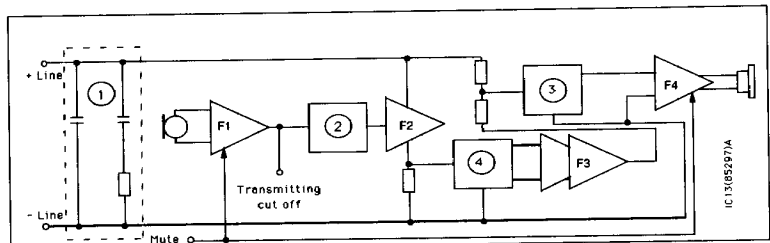
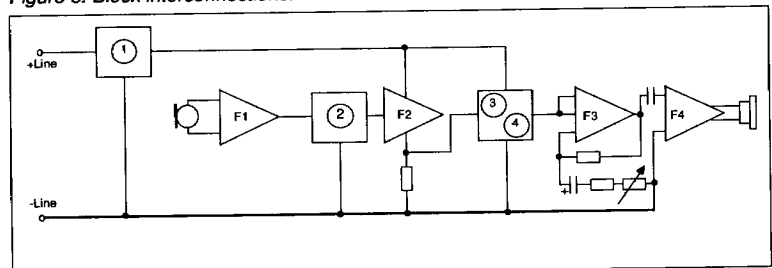

Figure 6. Block interconnections.
Figure 7. Alternative block interconnections.
The number of possibilities the F3 amplifier gives are very large. In fig. 6 and fig. 7 ①②③ and ④ are RC-links with the following functions: